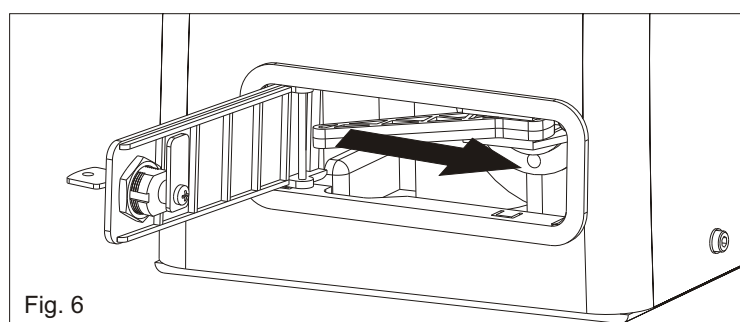

Fig. 6
- Grasp the release handle and bring it completely to the right side winning the inner spring resistance (Fig. 6).